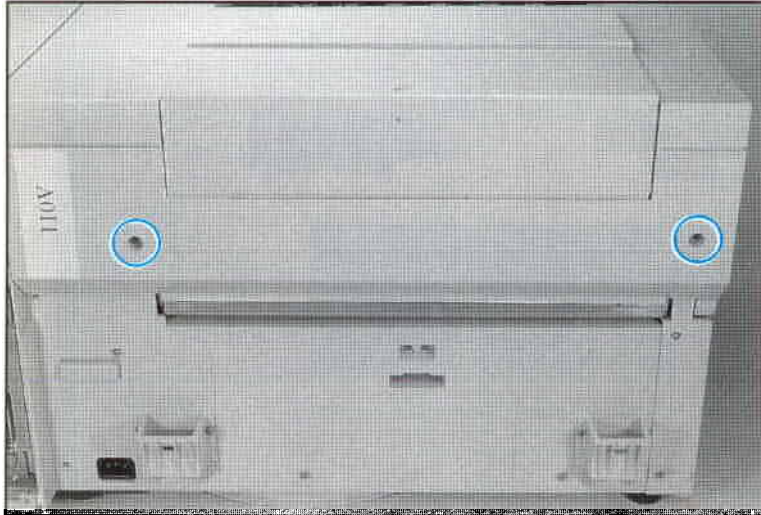

Figure 6-6 Toner Hopper Cover Removal
2. Remove (2) screws from the Toner Hopper Cover (Figure 6-6).